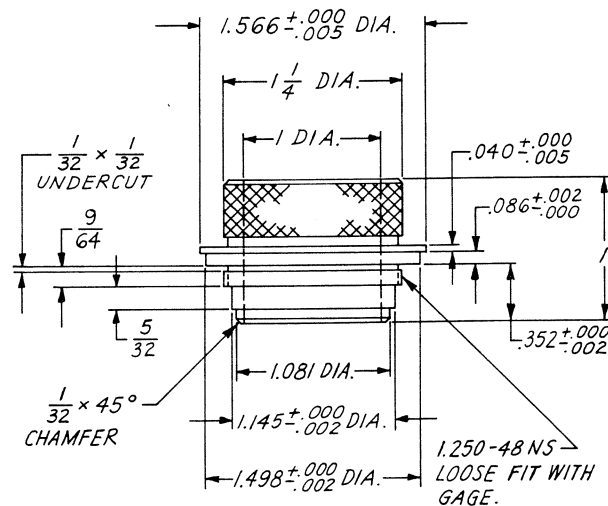

Figure 4. LENS ADAPTER
b. Lens adapter (Figure 4) to retain front housing during disassembly and while testing shutter.